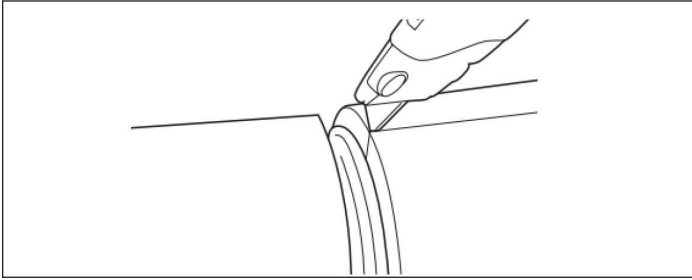

Figure: 1-4
6. Carefully cut the jacket longitudinally with a sharp utility knife for ease of removal. Do not score the **TracPipe** System tubing (Figure 1-4).